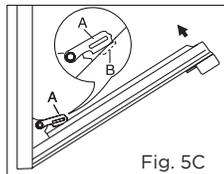

Fig. 5C
3 shut the oven door slowly until it reaches hooks "A", making sure these are locked into slots "B" of the oven door, as shown in fig. 5C.
- 3 shut the oven door slowly until it reaches hooks "A", making sure that hinges are locked into slots "B" of the oven door, as shown in fig. 5C.
- 3 shut the oven door slowly until it reaches hooks "A", making sure these are locked into slots "B" of the oven door, as shown in fig. 5C. Remove the glass Fig. 5A (only for models where present).